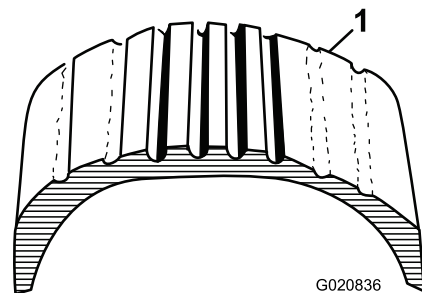
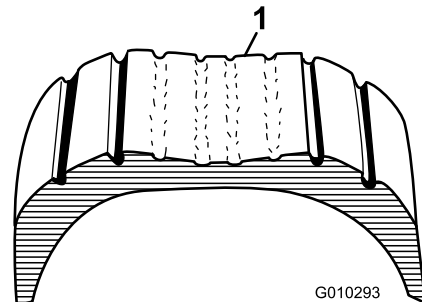

Figure 13
Figure 14
1. Visually inspect the tires for damage and wear (Figure 13 and Figure 14).